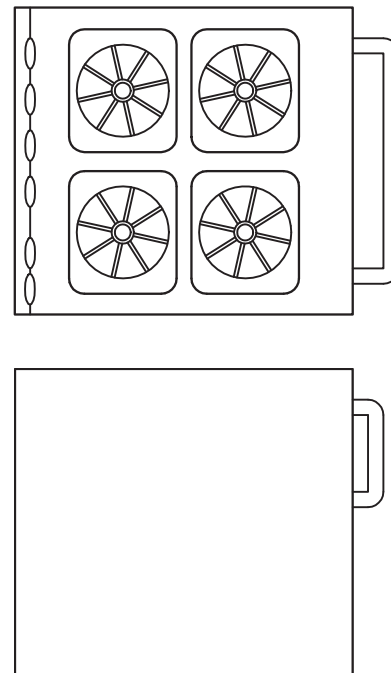

Fig. 14-6
4. Open the **kitchen.dwg** file you created in problem 3 of Chapter 13. Add the details for the stove and refrigerator as shown in Fig. 14-6. Open **Aerial View** and use it to position the zoom window as you work. Save the file as **kitchen2.dwg**.